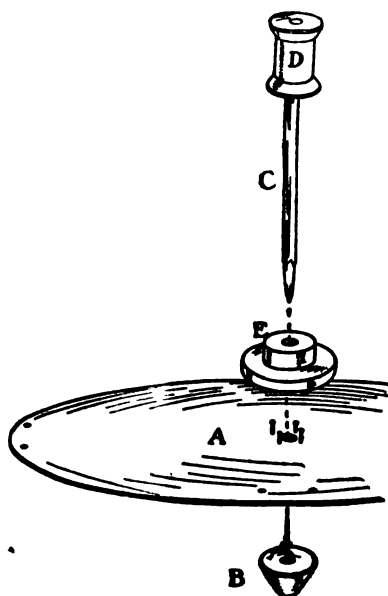
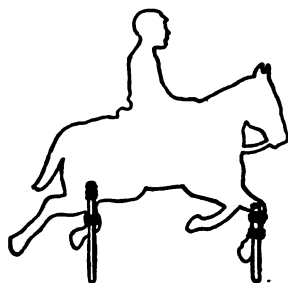

FIG. 133.—Detail of Merry-go-round Top.
FIG. 134.—How Horses are Mounted upon Top Platform.
Figure 133 shows the details for this top. If you haven't a compass, use a large-sized dinner plate with which to draw the circumference of the disk (A). Then cut a conical-shaped piece of spool (B), stick the lead-pencil through it for a spinning point (C), punch a hole through the disk to fit over the pencil, and tack the disk to B. Cut
go-round may be prepared like those of the clockwork merry-go-round in Chapter X (Figs. 143, 146, and 147). Figure 134 shows how two burnt matches or toothpicks are lashed to the legs of the horses for supports, and Fig. 133 shows how holes are pierced through the disk platform to stick them in.